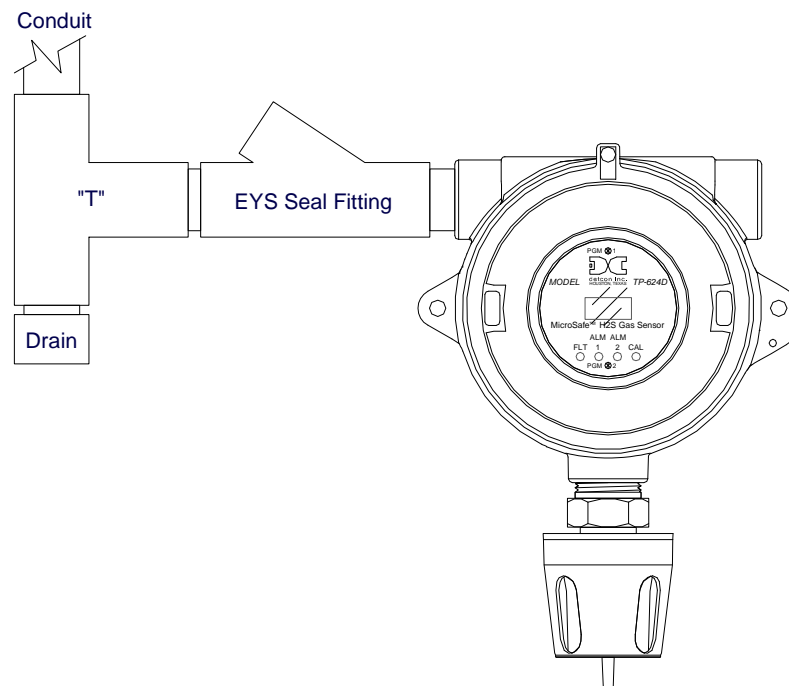
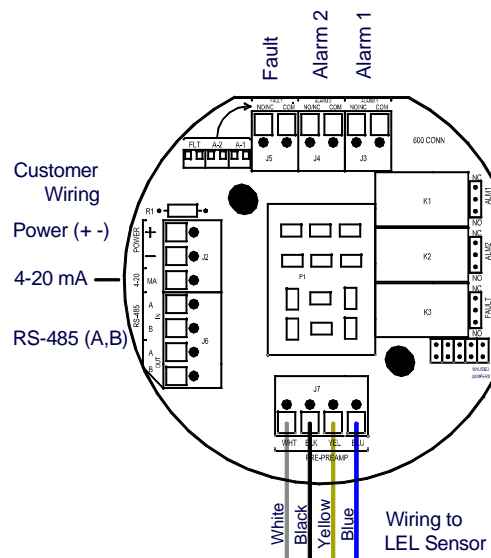

Figure 10 Typical Installation
Figure 11 Sensor Connector PCB
NOTE: In all installations the gas sensor should point straight down (refer to Figure 10). Improper sensor orientation may result in false readings and permanent sensor damage.
Proper electrical installation of the gas sensor is critical for conformance to Electrical Codes and to avoid damage due to water leakage. Refer to Figure 10 and Figure 11 for proper electrical installation.
NOTE: If a conduit run exits the secondary port, repeat the installation technique shown in Figure 10.
In Figure 10, the drain allows H₂O condensation inside the conduit run to safely drain away from the sensor assembly. The electrical seal fitting is required to meet the National Electrical Code per NEC Article 500-3d (or Canadian Electrical Code Handbook Part 1 Section 18-154). Requirements for locations of electrical seals are covered under NEC Article 501-5. Electrical seals also act as a secondary seal to prevent water from entering the wiring terminal enclosure. However, they are not designed to provide an absolute watertight seal, especially when used in the vertical orientation.
- b) Observing correct polarity, terminate the field wiring (DC+, DC-, MA, A, and B) to the sensor assembly wiring in accordance with the detail shown in Figure 11.